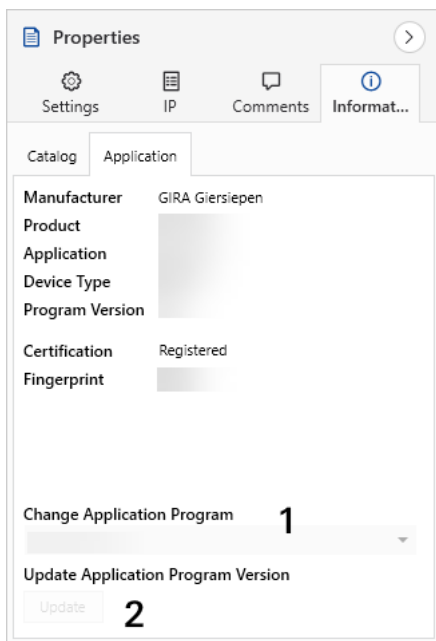

Figure 6: Updating the application program
5. Select the “Update” button under the item “Update application program version” (figure 6, pos. 2)
If you change the value under “Change application program” (figure 6, Pos. 1), user-defined settings such as links to group addresses will be lost.